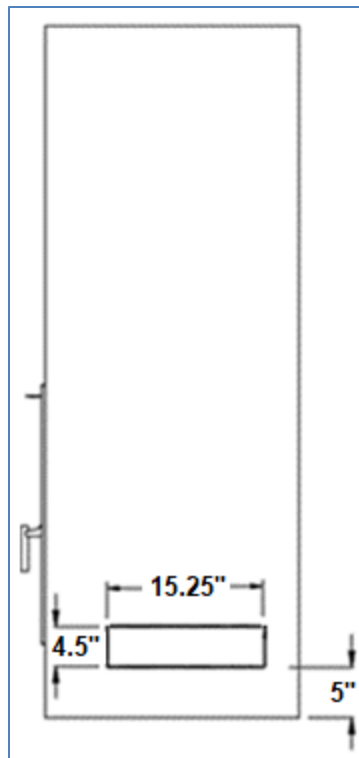

Figure 3-36 Opening for Air Intake
11. Determine the two locations of the air intakes on the chase and cut the rectangular openings of 15.25" (W) X 4.5" (H) (Figure 3-36).